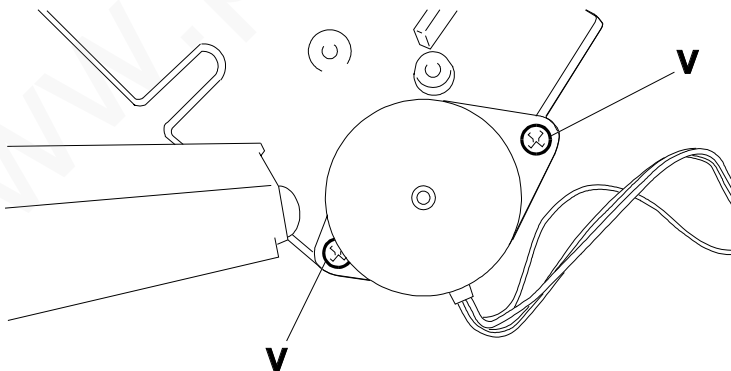

Fig. 7-29
6) Remove the two screws **V** and retrieve the motor (Fig. 7-29):